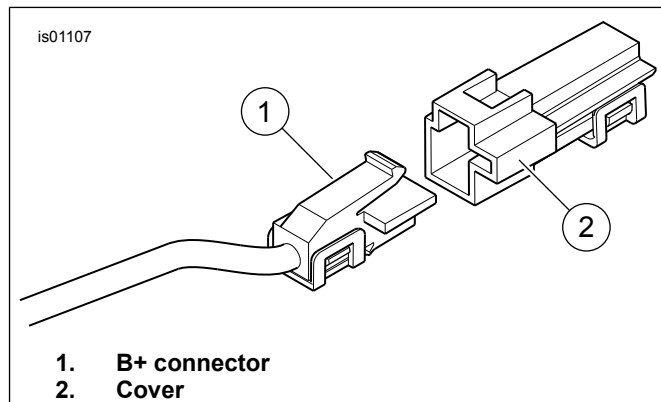

Figure 5. B+ Connector
1. See Figure 5. Locate the B+ (battery positive) connector (1) on the main electrical harness under the seat (a red wire with an unused gray connector). Remove the cover (2) from the connector.